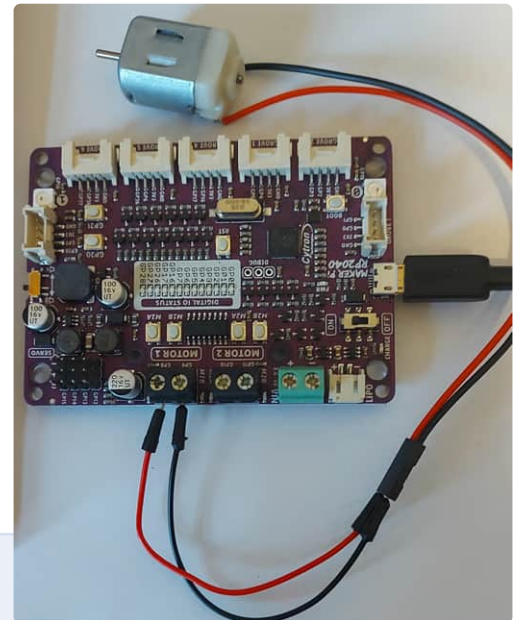

Figure 3: Connecting the motor to the RP2040 Maker Pi dev board.
**Figure 3** shows the project with the motor connected to MOTOR 1 outputs.